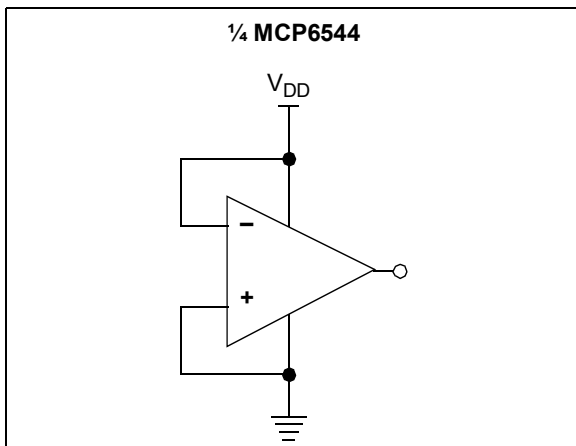

**FIGURE 4-9:** Example Guard Ring Layout for Inverting Circuit.
The easiest way to reduce surface leakage is to use a guard ring around sensitive pins (or traces). The guard ring is biased at the same voltage as the sensitive pin. An example of this type of layout is shown in Figure 4-9.
1. Inverting Configuration (Figure 4-6 and Figure 4-9):